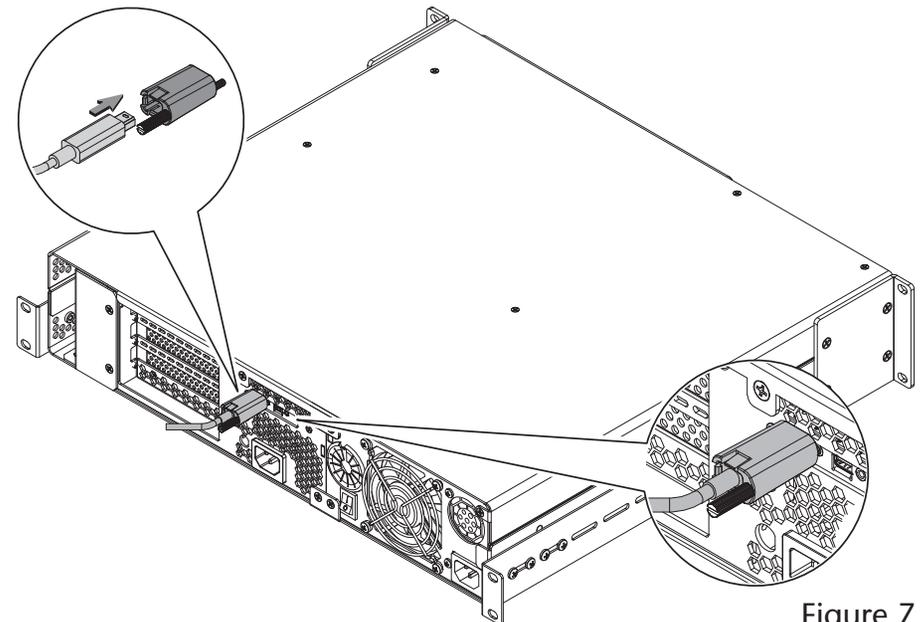

Figure 7
To attach the clip to the cable, remove them from their packaging, and then insert the connector into the connector clip as shown (**Figure 7**). Note that the connector will pass all the way through the clip; when you connect the cable to the chassis, the clip will secure the cable.
8. Connect the included Thunderbolt cable between either Thunderbolt port on the Echo chassis and a Thunderbolt port on your computer, or other Thunderbolt device in the chain connected to the computer (**Figure 7**). Secure the retainer clip to the chassis if you attached it. If you are daisy chaining additional Thunderbolt devices, connect another Thunderbolt cable between the downstream device and the open Thunderbolt port on the Echo chassis.